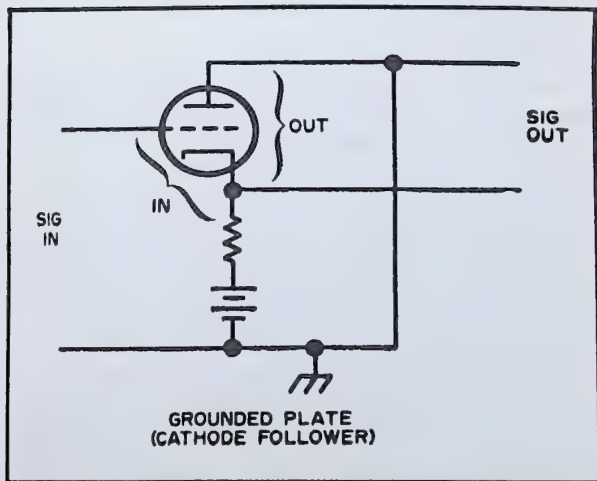

Fig. 10-10. Cathode follower circuit.
**Cathode Follower Amplifier.** The cathode follower circuit is shown in Fig. 10-10. Until the advent of the transistor, the cathode follower was one of the most useful and common of the basic audio circuits.